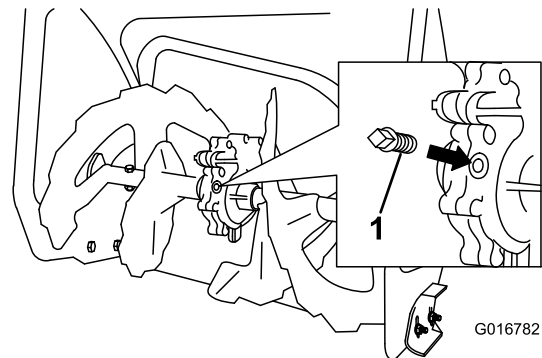

Figure 50
2. Clean the area around the pipe plug (Figure 50).